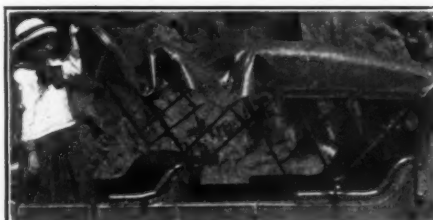

Fig. 1—Raising the Solitaire automobile top
consists of a floatless gasoline carbureter with a starvation type of atomizing nozzle at one end. This device is controlled from the dash and is worked in conjunction with the kerosene carbureter, which is always in action. Although about 75 per cent. of the mixture supplied to the motor is gasoline mixture when starting, when the throttle of the kerosene carbureter is opened as in driving a car, this proportion is decreased according to the throttle opening, so that at driving speeds, even when starting away, 50 per cent. of the mixture is kerosene mixture. Once the machine is running, the gasoline needle valve is thrown off from the dash. Fig. 1 shows the carbureter applied to the intake manifold of a motor.
**The Solitaire Top**—A top, Fig. 1, that can be raised or lowered in 2 seconds by one person, with little or no effort, has been invented by Douglas E. Bonner, who is associated with the Pantasote Co. of New York City. With the dust cover removed, it is possible to put up the top with equal speed from any position within reach, from the front seat, the tonneau or the side of the car. All that is necessary is to give it a push and it literally falls into place. The top takes its support from the sides and back of the rear seat, while straps running from the front corners of the top to the fastenings on the windshield, dash or cowl are provided to give the necessary rigidity. This method of fastening the straps is superior to running them out front to some place on the fenders or frame, as they may be attached without climbing out of the car. Also the accessibility of the motor is impaired. There are no bows to interfere with passengers getting into or out of the car, while increased arm room is obtained for front-seat occupants, due to absence of the customary supports at each side.